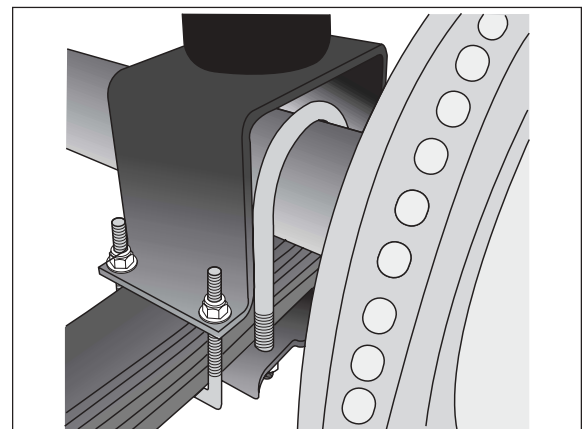

Figure 7
8. On the forward side of the bottom bracket, install the supplied U-bolt, two flat washers, and two nyloc nuts (Figure 7). Tighten securely.